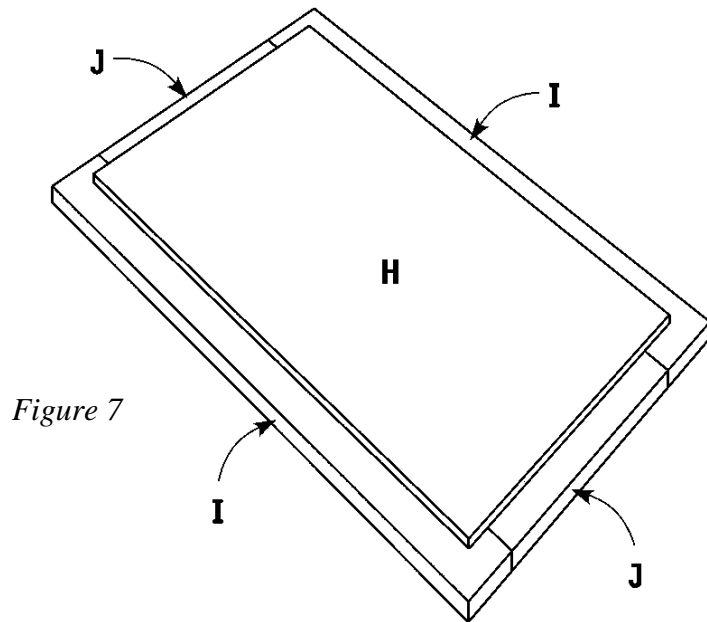

Figure 7
- Center one Upper Panel (H) over the trims (I and J) as shown in *Figure 7*. Apply glue to the meeting surfaces, and screw through the Upper Panel (H) into horizontal and Vertical Trims (I and J) using 1" drywood screws spaced every
- Center one Lower Panel (K) face down over the door trims (L and M), as you did for the Upper Trims (I and J). See *Figure 7*. Apply glue to the meeting surfaces and screw through the edges of the Lower Panel (K) into the Lower Vertical and Horizontal Trims (L and M) using 1" drywall screws spaced every 5 inches.